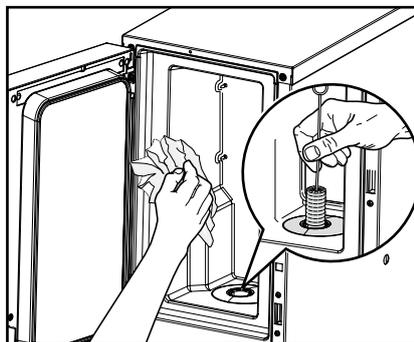

Fig. 35
4. Clean the interior of the cooling compartment (fig. 35):